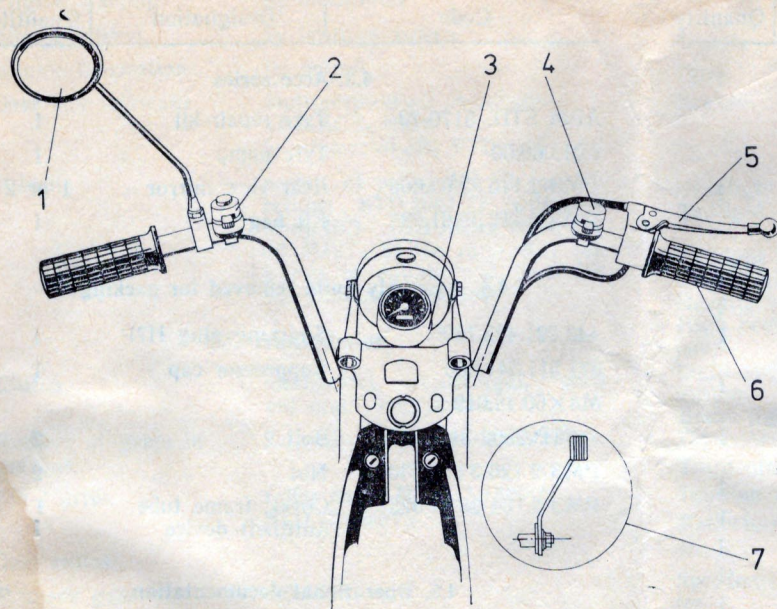

Fig. 1: Controls and instruments
6.1. Controls and instruments (Fig. 1)